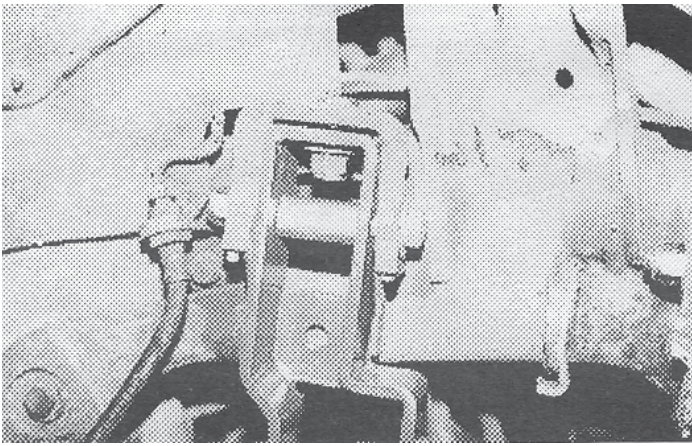

Fig. 34
33. Install bracket "LF" in DVR side upper front control arm receiver. Utilize 1/2" x 4" bolt, washers, locator tabs, 1-11/16" sleeve and nut provided. Install 1/2" x 1-1/4" bolt, washers, and nut through hole in top of OE bracket and bracket "LF". **Do not tighten fasteners at this time.** **Fig. 34.** **Note:** Reaming of OE holes may be necessary to obtain a good fit between OE receiver and TM brackets. Using bracket "RF" repeat step on PASS side.